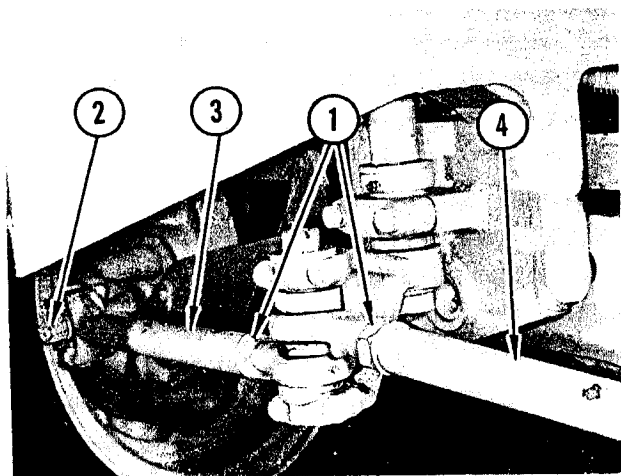

FIGURE 13. LINKAGE ADJUSTMENT
Refer to Figure 13. Loosen jam nuts (1) on both tie rod ends. Remove cotter pin from slotted nuts (2) and remove slotted nut from both L.H. and R.H. steering arms. Slide yoke ends of tie rods off end of steering arm. Turn tie rods in or out on tie rod ends until a toe-in of 1/8" to 1/4" has been obtained.